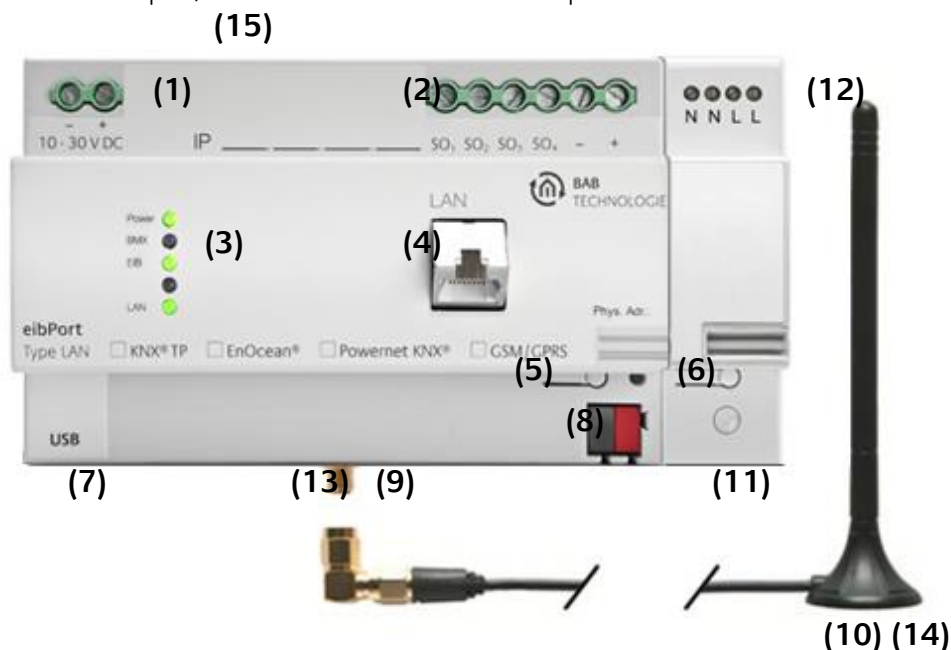

Figure 2: Device Overview
When establishing the power supply, please make sure that sufficient power is available. The EIBPORT requires 300 mA at 12 V during the boot process. Connect the power supply unit according to the marking on the screw-type terminals **(figure 2 (1))**.
For programming the EIBPORT it is necessary to access via LAN. This can be done both using an existing LAN network or via direct connection. Plug in the network cable (LAN) into the RJ 45- connector **(Figure 2(4))**.
- Connect the bus wire with the bus clamp **(figure 2, (8))**
- Connect the Powernet KNX net coupler with the electric power wire (**figure 2, (11)**)
- Screw the SMA plug on the SMA connector to tighten it (**figure 2, (9,10)**).